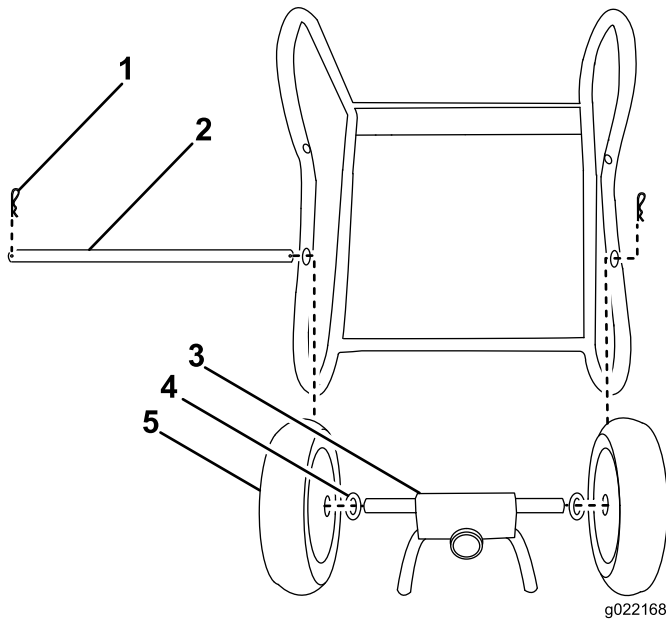

Figure 3
1. Slide the axle rod into the frame of the machine; refer to Figure 3.
2. Slide the axle rod, wheels, washers, and pivot mount plate into place; refer to Figure 3.
3. Secure the wheels and axle rod in place with cotter pins; refer to Figure 3.